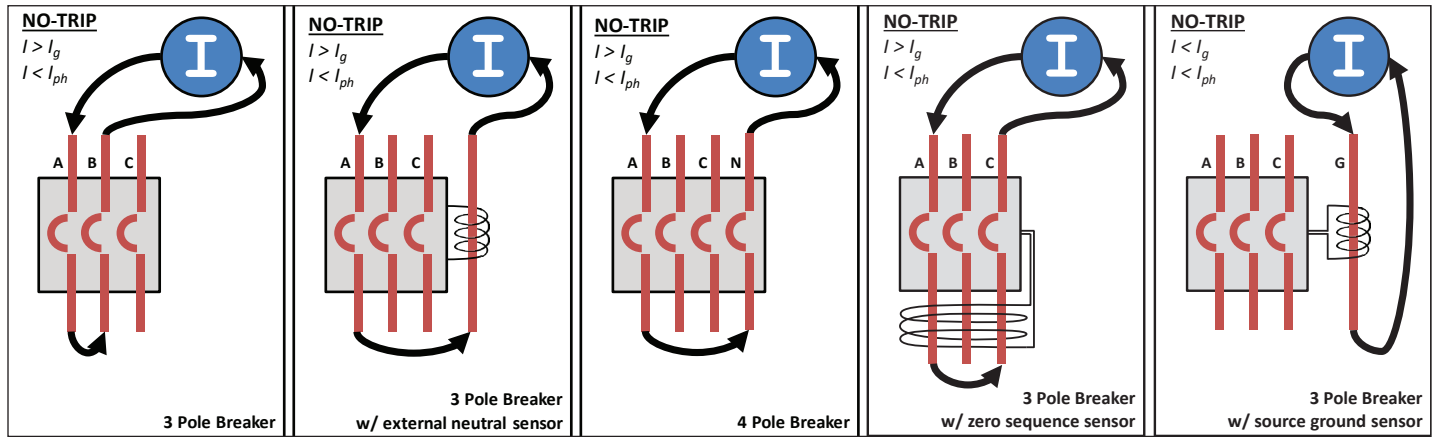

Figure 3. a b c d e
2. Depending on the configuration (see figure 3):